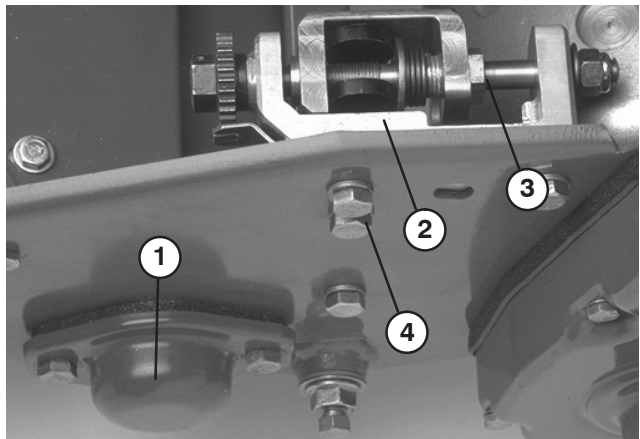

Figure 3
5. Remove the two capscrews and locknuts securing the end cap to the left reel bearing housing and the side plate of the machine. Remove and retain the end cap and the mounting screws for use if the groomer is ever removed (Fig. 3).
6. Using a 7/8" standard wrench, loosen the spring tension screws on the right and left bedbar adjusters (Fig. 3). Back out the screws until the thrust washers are no longer tensioned against the bedbar.
7. Remove the two capscrews and washers securing left bedbar adjuster frame to side plate (Fig. 3).